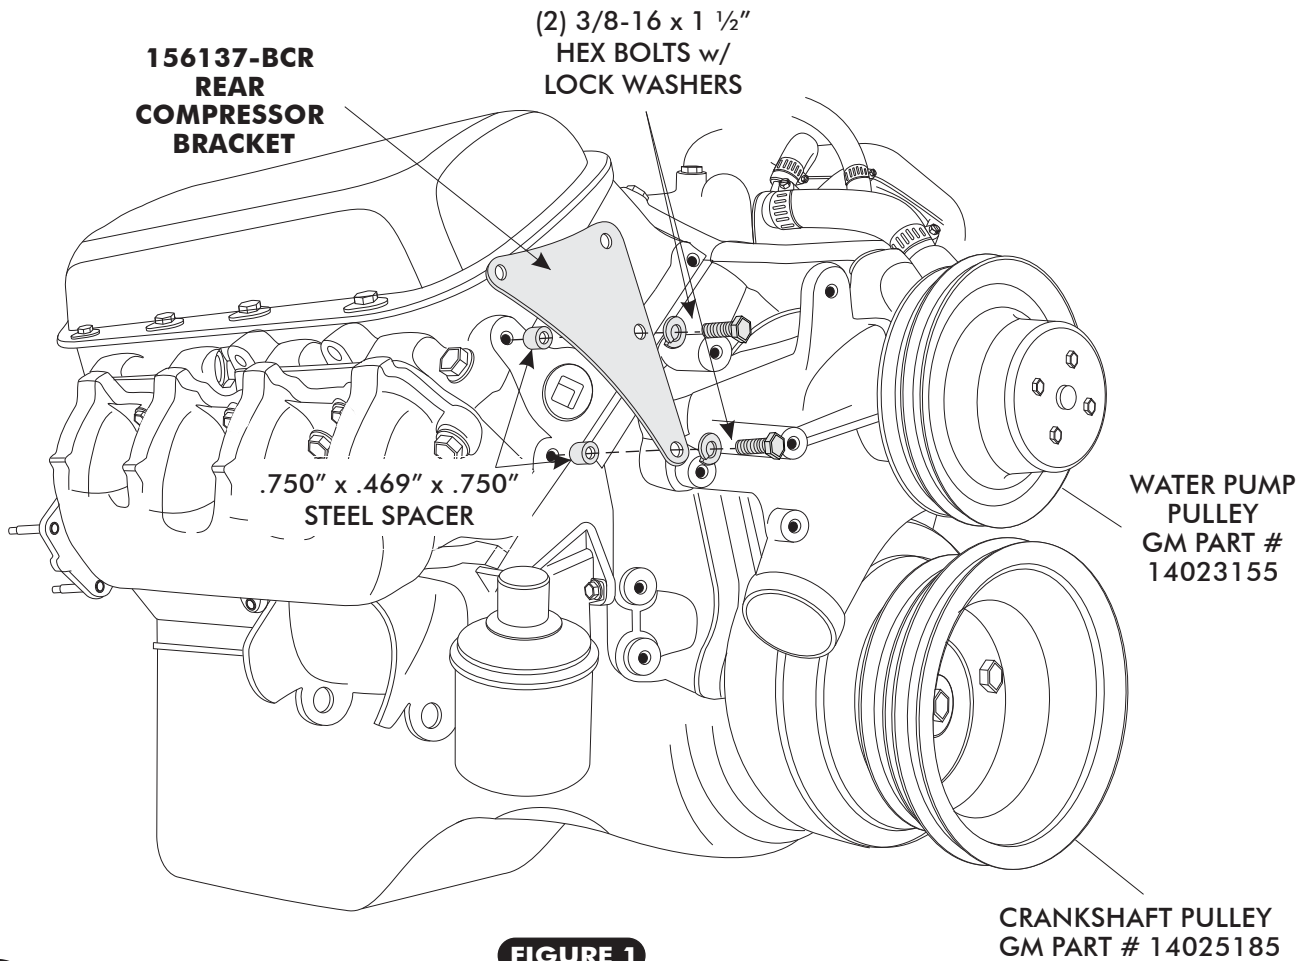

FIGURE 1
- INSTALL THE REAR COMPRESSOR BRACKET AS SHOWN BELOW IN FIGURE 1. PLACE THE (2) .750" STEEL SPACERS BETWEEN THE BRACKET AND THE HEAD. SECURE THE BRACKET USING (2) 3/8-16 x 1 1/2" HEX BOLTS w/ LOCK WASHERS. **NOTE: SOME HEADS HAVE 3/8" BOLT HOLES AND SOME HAVE 7/16" BOLT HOLES. THIS KIT INCLUDES BOTH SIZES OF BOLTS. IF YOUR HEADS HAVE 7/16" BOLT HOLES, YOU MUST ENLARGE THE CORRESPONDING HOLES IN THE MOUNTING BRACKETS TO 7/16". USE THE 7/16-14 x 1 1/2" HEX BOLTS TO SECURE BRACKET.**